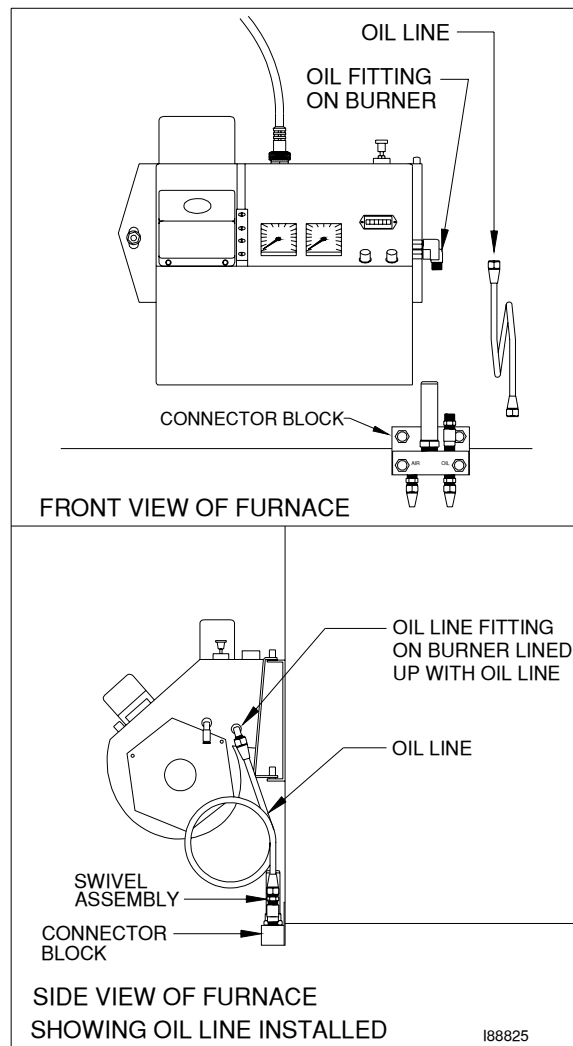

Figure 3G - Installation of Connector Block and Oil Line
3. Use a wrench to slightly rotate the oil line fitting on the burner counterclockwise so the tubing lines up with the swivel assembly. Slightly bend the tubing as shown in Figure 3G, if required, to "line up" the oil line.